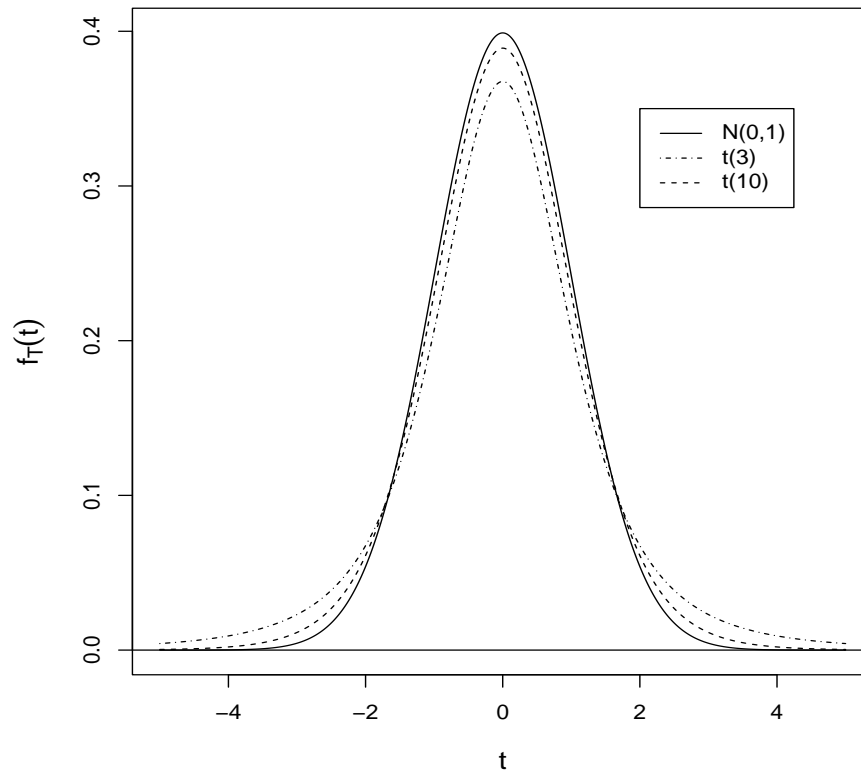

Figure 6.8: t pdfs with $\nu = 3$ and $\nu = 10$ degrees of freedom. The $\mathcal{N}(0, 1)$ pdf is shown as a reference.
- Its pdf is continuous and symmetric about 0 (just like the standard normal pdf); see Figure 6.8 (next page).
For example, here are the 95th percentiles of each distribution in Figure 6.8 above: